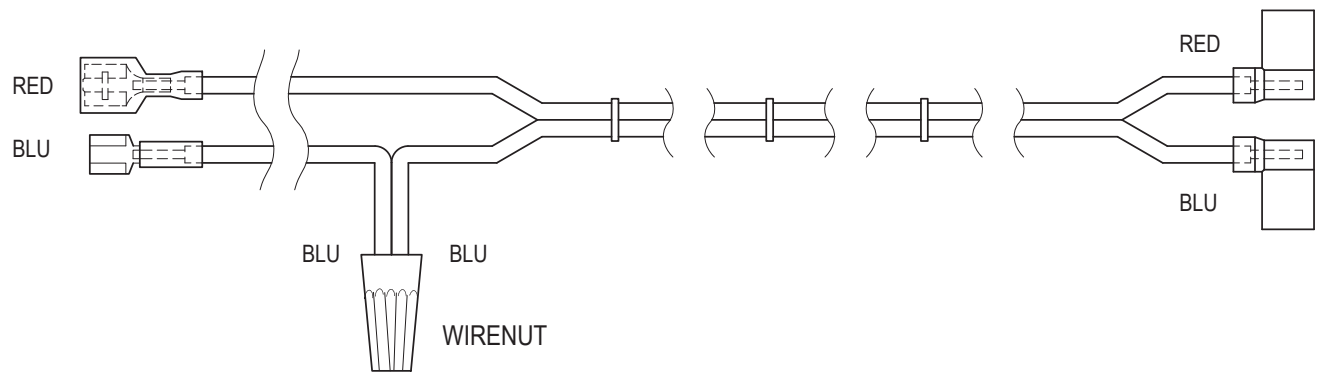

Figure 21. Harness 10, Models 2100-4001
15. Inside the J-box, connect the 2 spade connectors (RED and BLU) of HARNESS 10 to the matching leads from HARNESS 9 per **Figure 21**. Connect the end of HARNESS 9 with flag connectors through the hole in the vent switch shield. Use a pair of wire clips to neatly secure the wiring along the face of the unit.